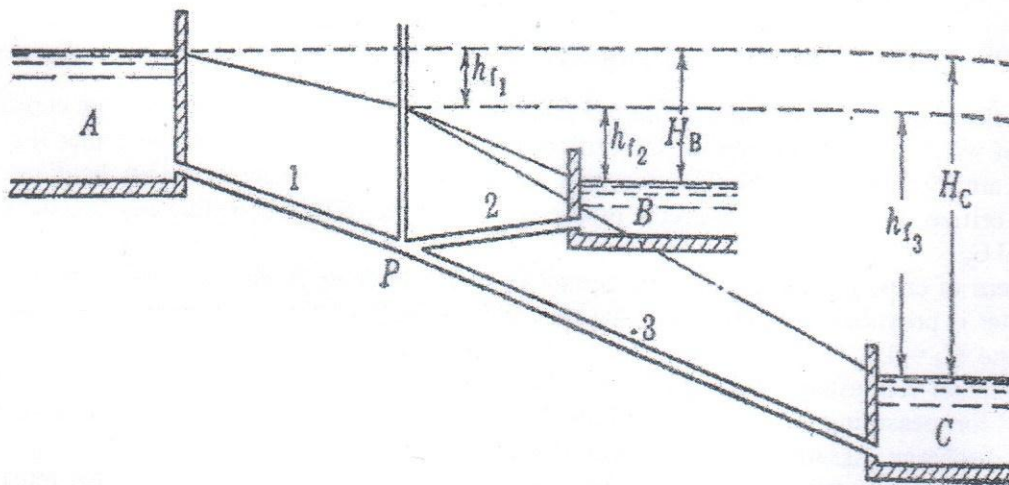

Figure 7
- (b) A 70 cm pipe is supplied with water from a reservoir A (Figure 7), and at a point P it is divided into two branches of 50 cm and 35 cm in diameter, which discharges into reservoir B and C, respectively. Length of 70 cm pipe is 650 m, length of 50 cm pipe is 900 m and length of 35 cm pipe is 500 m. The surface level in A, B and C and the level at P are 35, 24, 18 and 28 m above datum, respectively. Find the velocity of flow and discharge in each pipe. Take $f = 0.03$. Neglect losses other than due to friction. (13)